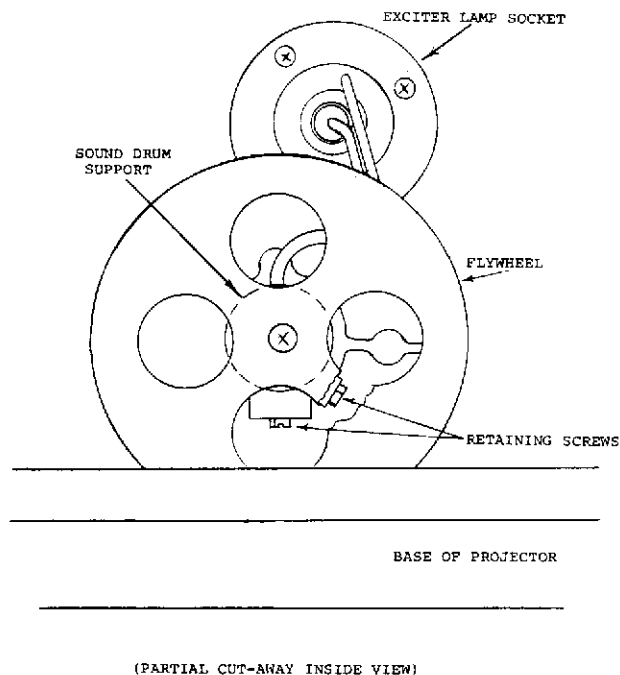

Figure 4-20. SOUND DRUM SUPPORT RETAINING SCREWS.
3. Loosen Sound Drum Support Retaining Screws (Figure 4-20) and rotate Support until Photo Diode Notch of Support is centered on the Pin in end of Locating Plug Figure 4-18.